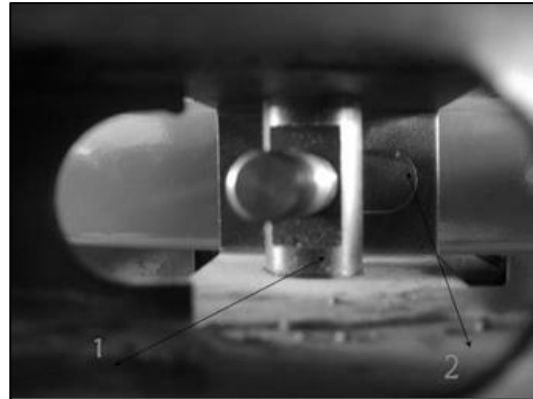
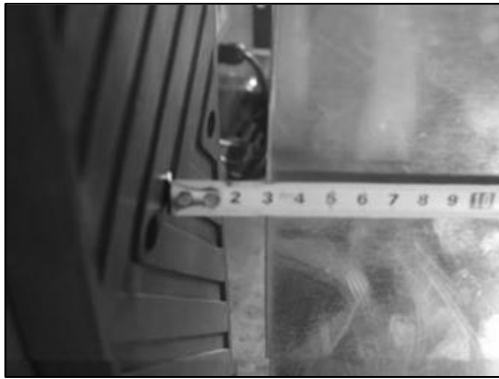

Fig. 10
Fig. 11
3.2.5 Position the bead breaking Arm Shaft Bushing into the bead breaking Support Plate on the body (Fig. 9-1) to align the hole and install the bead breaking bolt (Fig. 9-2) and assemble the nut to lock (Fig. 8-4). Insert the piston rod (Fig.10-2) through the hole of the bead breaking slide bushing (Fig. 10-1). The surface of the slide bushing should be facing outwards (Fig. 10). Assemble the removed nut (Fig. 8-1) into the front end of the piston rod. The distance from the edge of the bead breaking blade to the bead breaker's rubber pad is $1\frac{3}{16} + 1\frac{1}{2} + (30-40\text{mm})$ as shown in Fig.11. Install the return spring (Fig. 9-3)